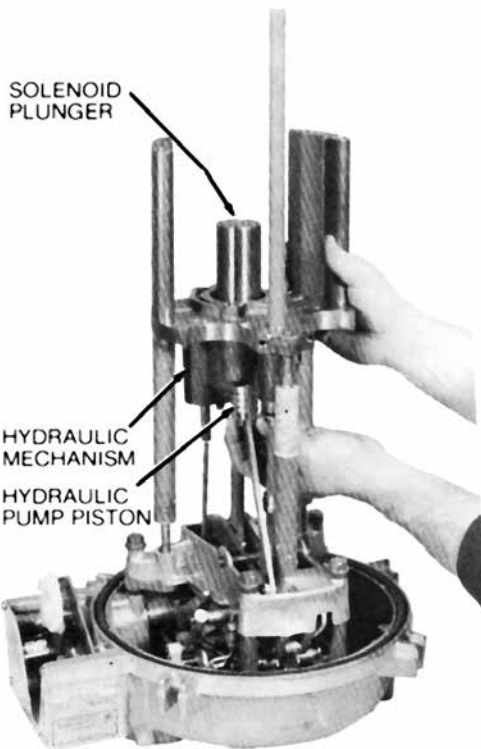

Figure 23. Removing the hydraulic mechanism
3. Grasp the solenoid plunger and pump piston link with one hand and carefully lift off the frame with the other hand as illustrated in Figure 23. If desired, the lower half of the front stringer can now be unscrewed from the head mechanism.